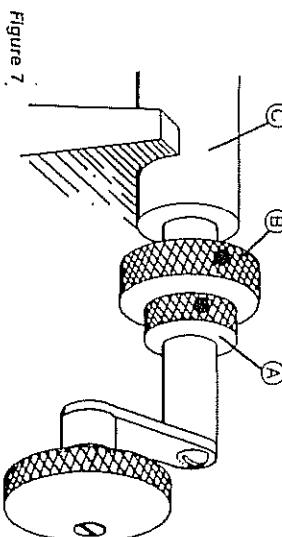

Figure 7
Holding the Adjustment Bushing ⑧ four or five full turns clockwise. (Figure 7.) Now slide both bushings left against the Cutter Guide ⑤ and tighten the setscrew in Bushing ⑨ only. Twist Bushing ⑧ counterclockwise $\frac{1}{2}$ turn and you're ready to trim the first case. When turning the handle, press lightly inward against the case mouth.